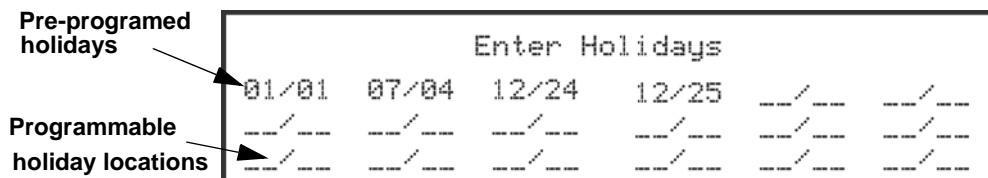

Figure 9-13 Edit Holidays Screen
4. Select 3 for Holiday Days. A screen similar to that shown in Figure 9-13 will display.